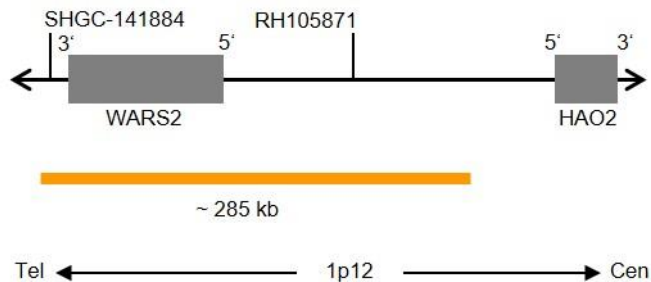

Fig. 1: SPEC 1p12 Probe map (not to scale)
- ZyOrange (excitation 547 nm/emission 572 nm) labeled polynucleotides (~4.5 ng/μl), which target sequences mapping in 1p12* (chr1:119,537,102-119,823,147) (see Fig. 1).